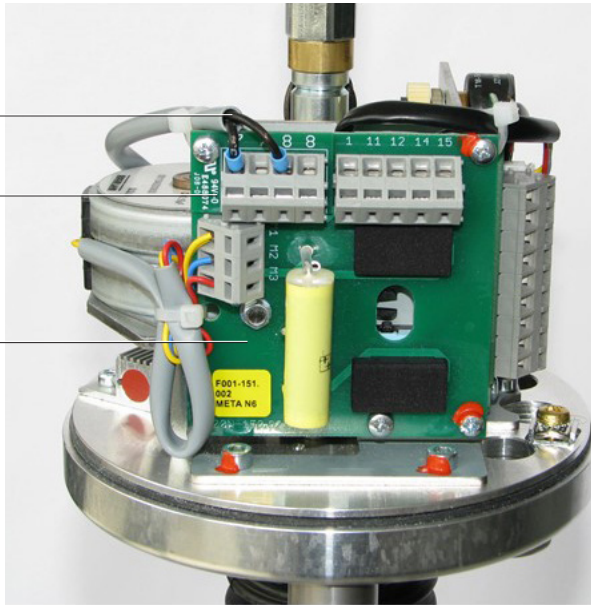

Fig. 15
- Refer to Figures 15 to 20 "Heater Installation 1-6 kN (225-1,349 lbf)" for product orientation and fix the anti-condensation terminal board to the main board with the screws supplied